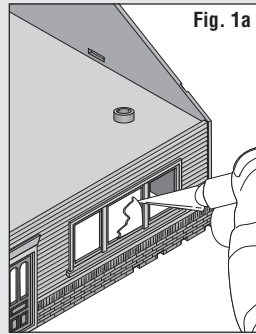

Fig. 1a
- Remove any mold flash from Building Shells using a hobby knife and sandpaper (Fig. 1a).